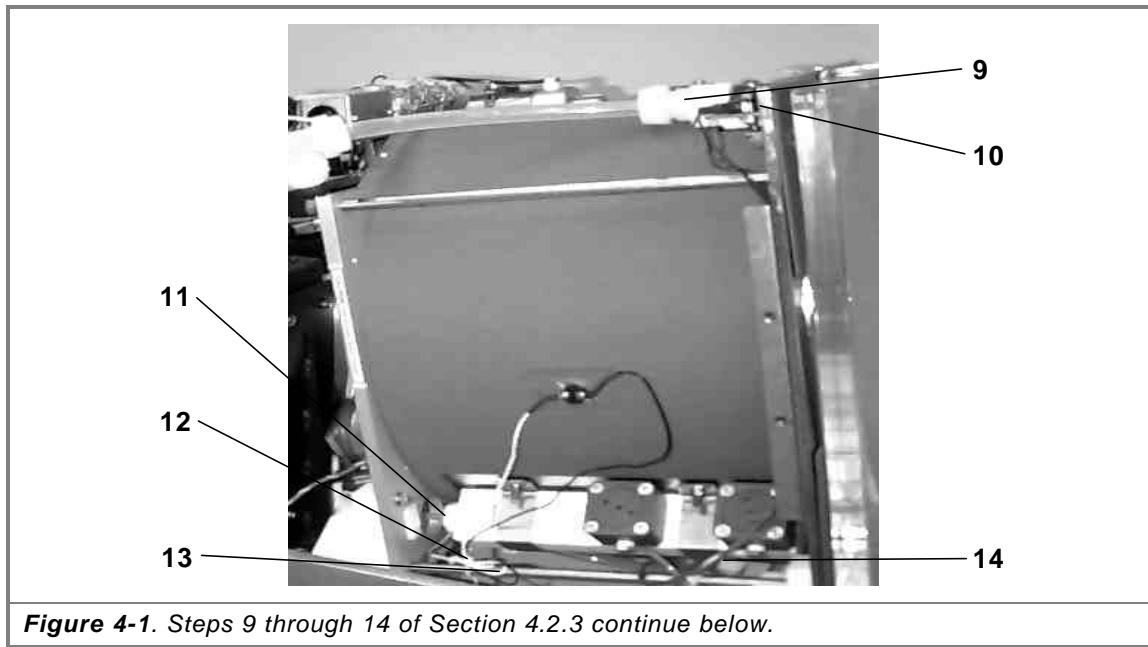

Figure 4-1. Steps 9 through 14 of Section 4.2.3 continue below.
8. Refer to Figures 4-1 and 4-2. Perform the steps in order.